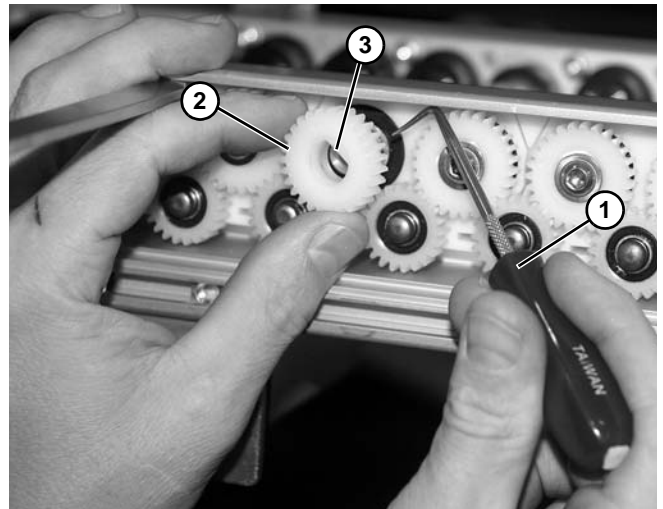

Figure 16
4. Use a small pick (Figure 16, item 1) to pry gear (Figure 16, item 2) from roller shaft. Make note of the notches (Figure 16, item 3) in the gear and roller shaft.